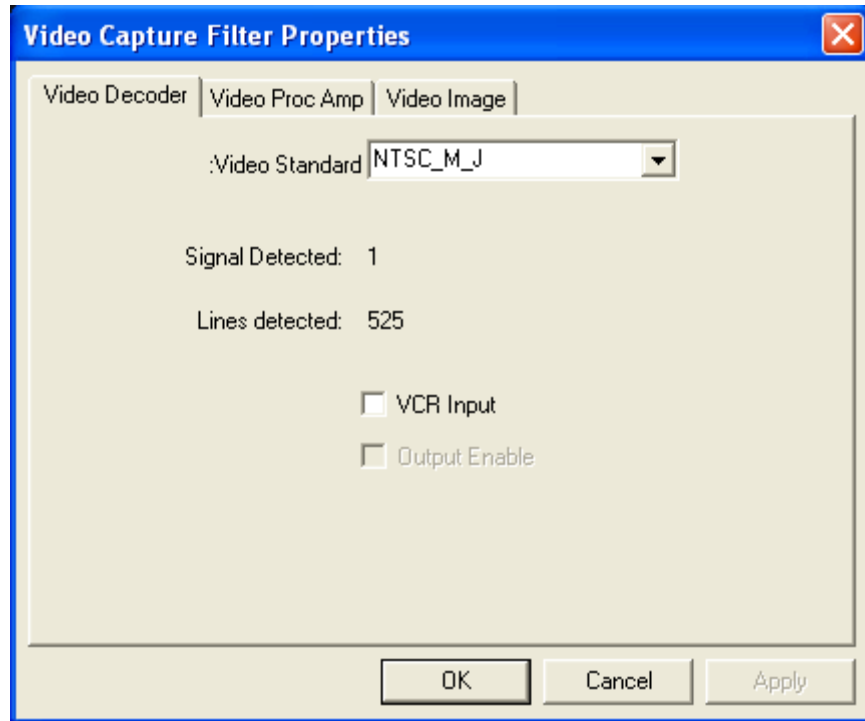

Figure 8. Video Capture Filter Properties
**"Video Capture Filter..."** will display video capture filter property pages. See figure 8.